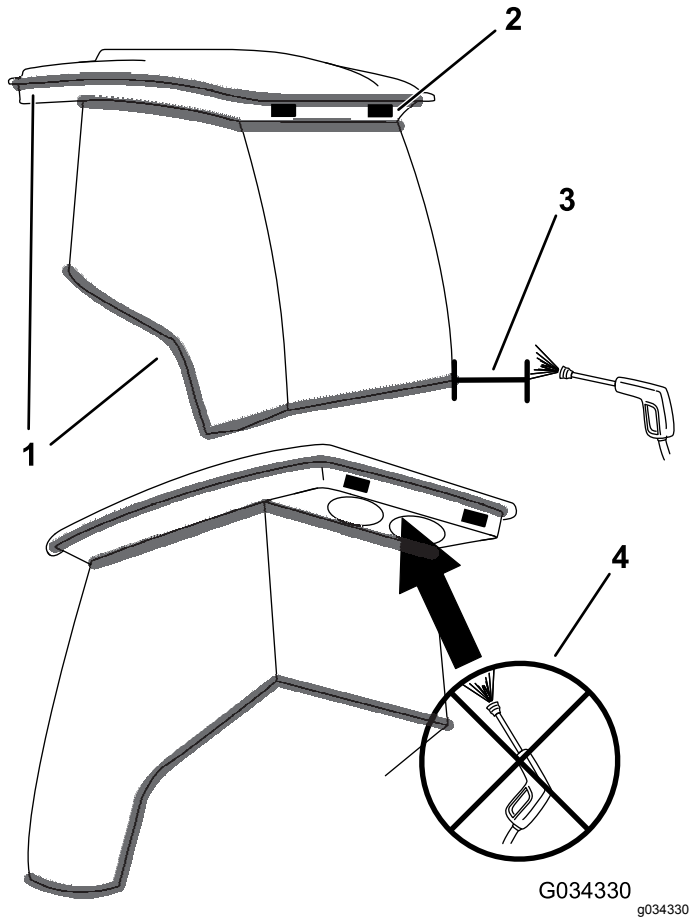

Figure 91
**Important:** Use care around the cab seals and lights (Figure 91). If you are using a pressure washer, keep the washer wand at least 0.6 m (2 ft) away from the machine. Do not use the pressure washer directly on the cab seals and lights or under the rear overhang.